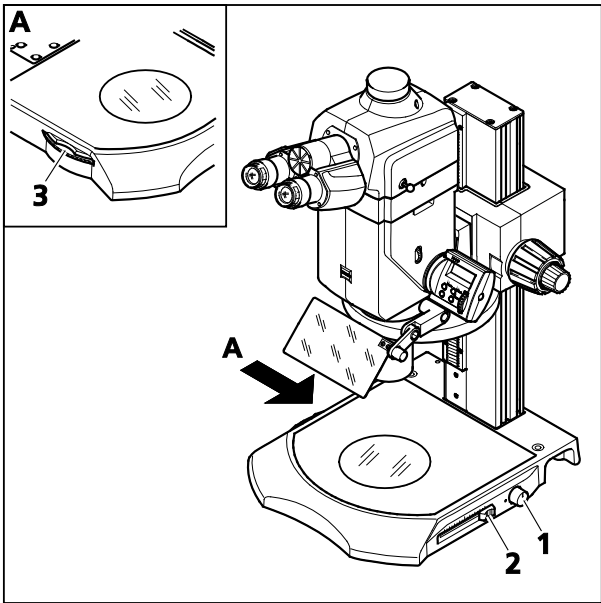

Fig. 47 Adjusting transillumination base 300
- Switch on using the rotary knob (Fig. 47/1) and regulate illumination intensity. The blue power indicator lights up when switched on.
- Select the desired illumination method using the setting wheel (Fig. 47/3).
Different effects can be achieved with the shutter slider (Fig. 47/2) in the individual illumination methods.
-  The diaphragm slide (Fig. 47/2) should initially be at the rear stop in order to achieve a large homogeneous luminous field.